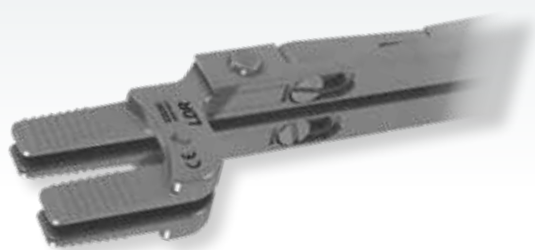

Figure 9
- Replace the unilateral distractors with the bilateral distractor part 1 and 2 (**Figure 9**).